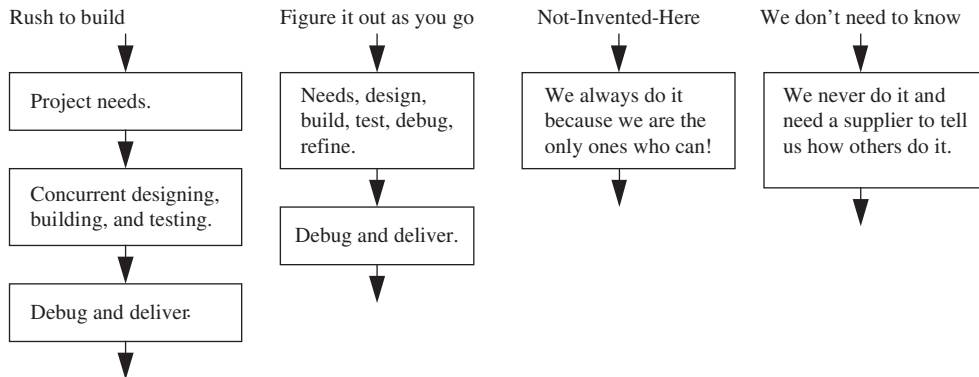

FIGURE 1.16
Problematic design project plans are illustrated in Figure 1.16. With careful planning and assessment these problems can be avoided. When these problems occur, there are a few possible effects including (1) mild, with no substantial impact on the project, but some extra work and/or planning is required; (2) minor, requires a major change to one or more tasks and the plan; or (3) major, the project is at risk of failure and requires substantial effort to correct. Some possible disaster scenarios are as follows: